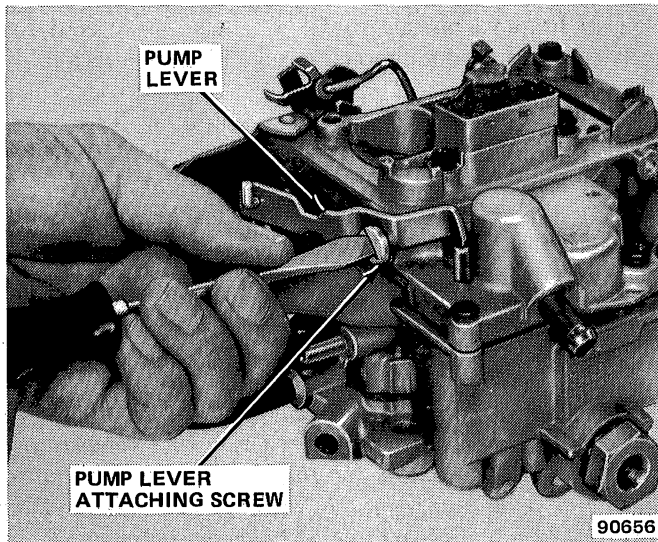

Fig. 1J-27 Model 2SE Carburetor—Pump Lever Removal
- (1) Remove pump lever retaining screw from air horn (fig. 1J-27). Rotate pump lever to remove from pump rod.